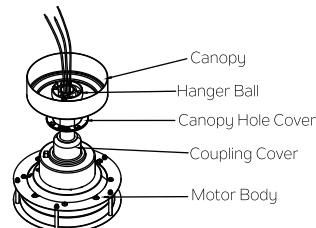

Fig. 8
**Step 4.** Slip the coupling cover, canopy hole cover and canopy onto the downrod. Carefully reinstall the hanger ball onto the downrod . Make sure the cross pin is in the correct position and the set screw is tight and the wires are not twisted . ( Fig. 8)